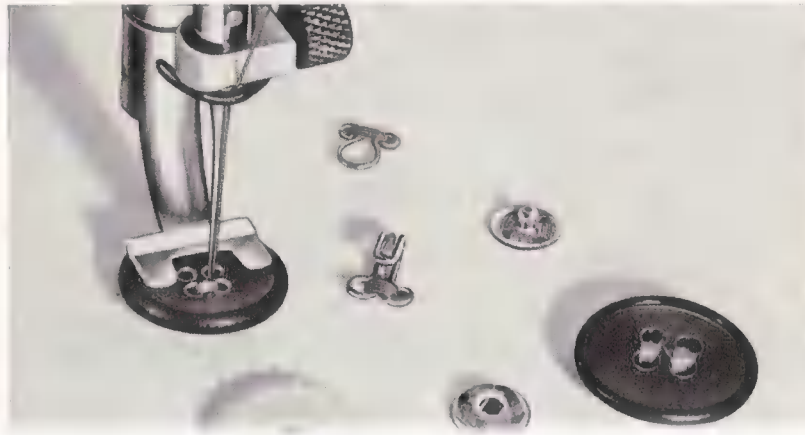

Fig. 46
3. Attach button presser foot marked by 2 black lines on its shank and place button under foot according to Fig. 46.